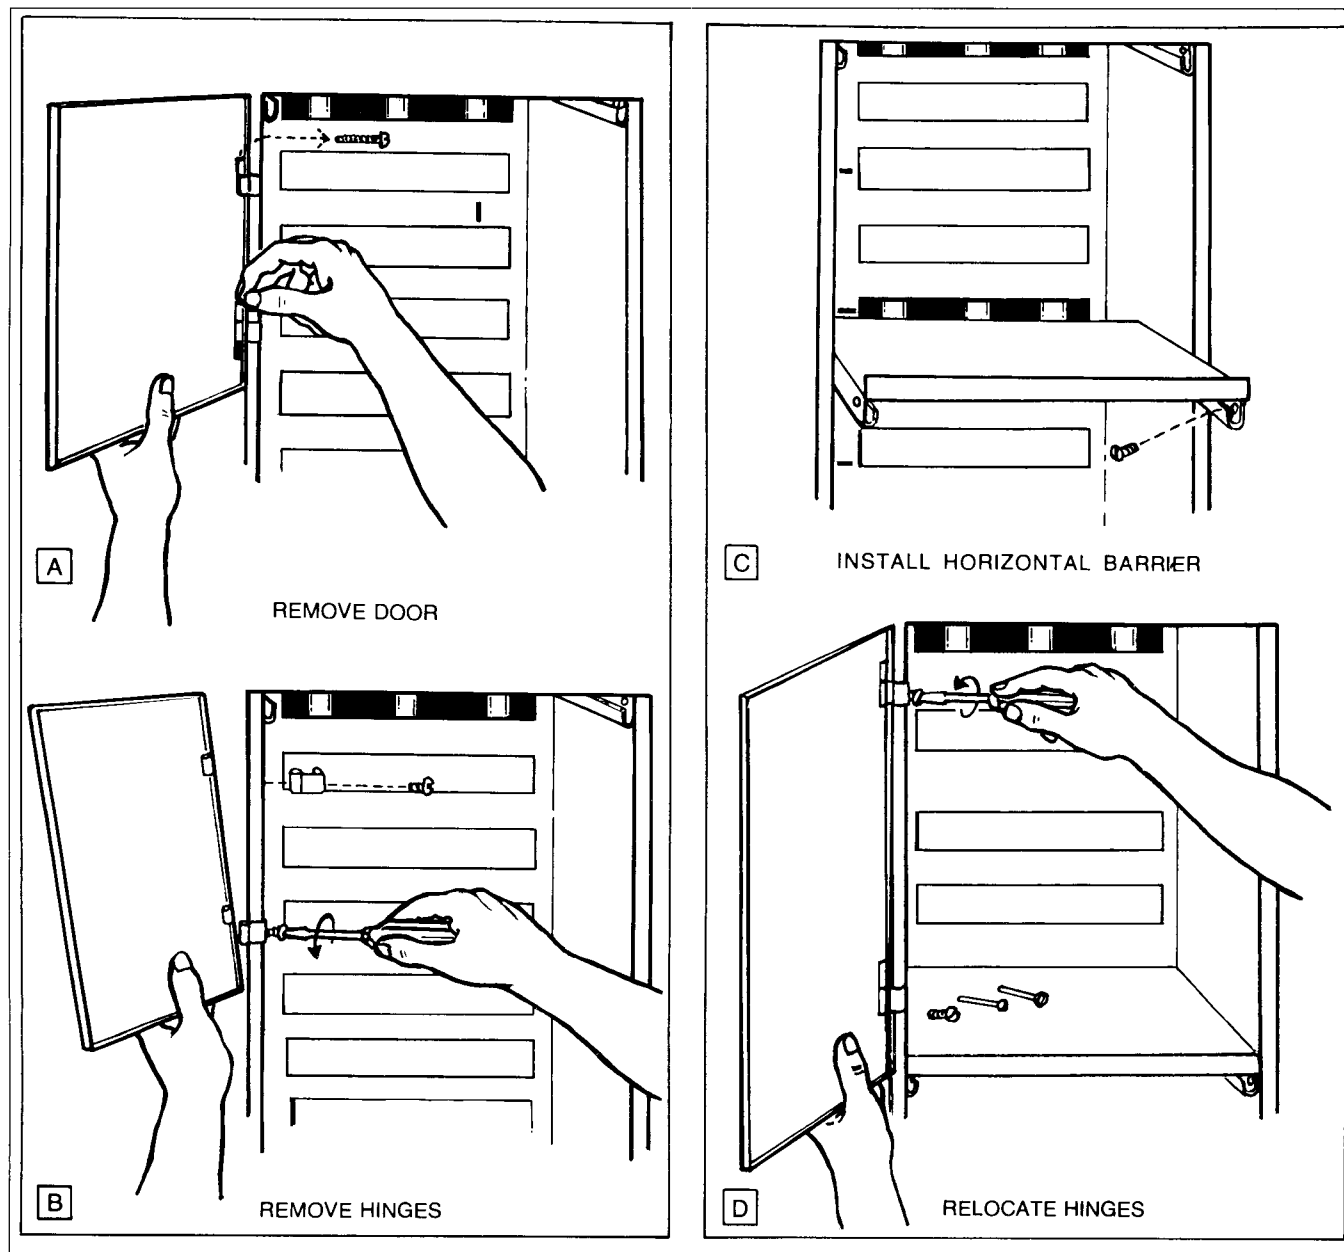

Figure 23: Draw-Out Unit Addition
1. Remove the cover(s) over the blank section(s) equal to the drawout unit height. (Steps A and B, **Figure 23**).
2. Horizontal drawout unit barriers are installed by sliding the rear tabs into mating slots in the vertical barriers and fastening the front into place with two self-tapping screws in the predrilled vertical channels (see **Figure 2**). (Step C, **Figure 23**).
3. Use the new door as a template to locate the positions of the hinges. Self-tapping screws in predrilled holes are used to bolt the hinges to the left hand corner channels. Remove or relocate any excess hinges left from the removal of the covers performed in Step 1 above. (Step D, **Figure 23**).